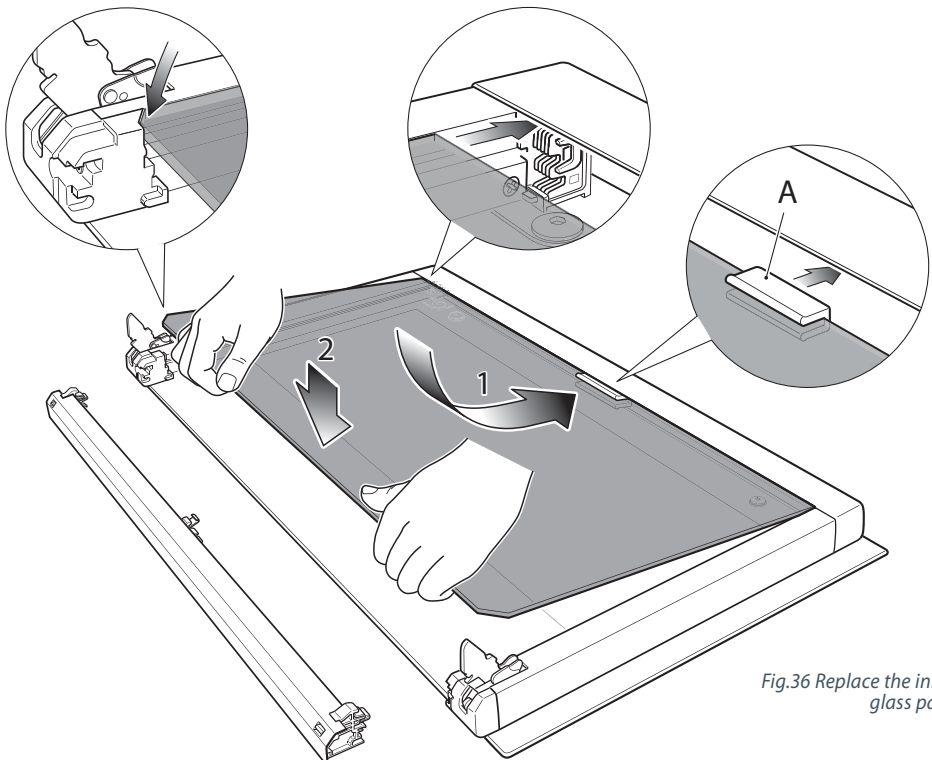

Fig.36 Replace the inner glass pane
- Check that the gasket 'A' is in place (Fig. 36). If not, correctly place the gasket in the top edge of the inner glass (in the centre).
- 2 Gently lower into place (arrow 2 in figure 36).